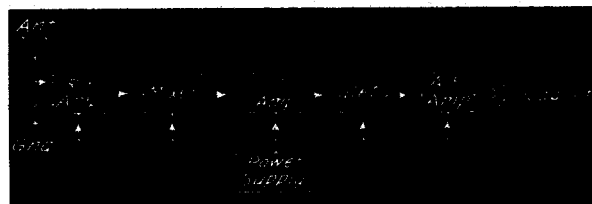

Fig. 1.—Functional block diagram of a superheterodyne receiver.
4. **ELECTRICAL TESTS.**--*a. Method.*--Any radio transmitter circuit can be reduced to several inter-related sections. Figures 1, 2, and 3 illustrate the principal sections of a superheterodyne receiver, a continuous wave (c-w) transmitter and a phone